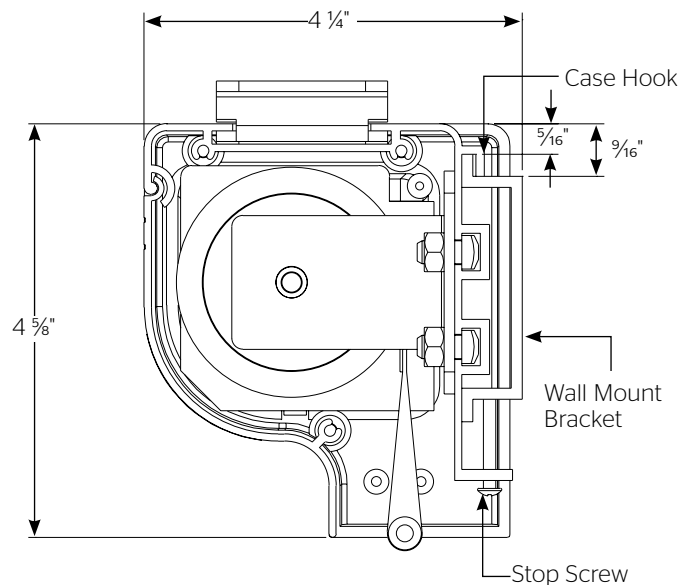

Figure 1
2. Make sure the bracket is level. See figure 1 for reference dimensions.
4. Mount the screen case on the wall bracket as shown in figure 1. Be sure the case is fully seated on the bracket. Tighten the stop screws against the wall bracket.